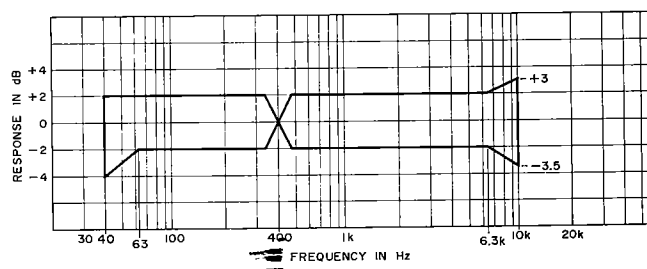

Fig. 10-4 Overall frequency response
4. Vary the input signal frequency over a range of 40 Hz to 10 kHz and record the frequencies, and then playback the signals just recorded. The playback output levels should be as shown in Fig. 10-4.